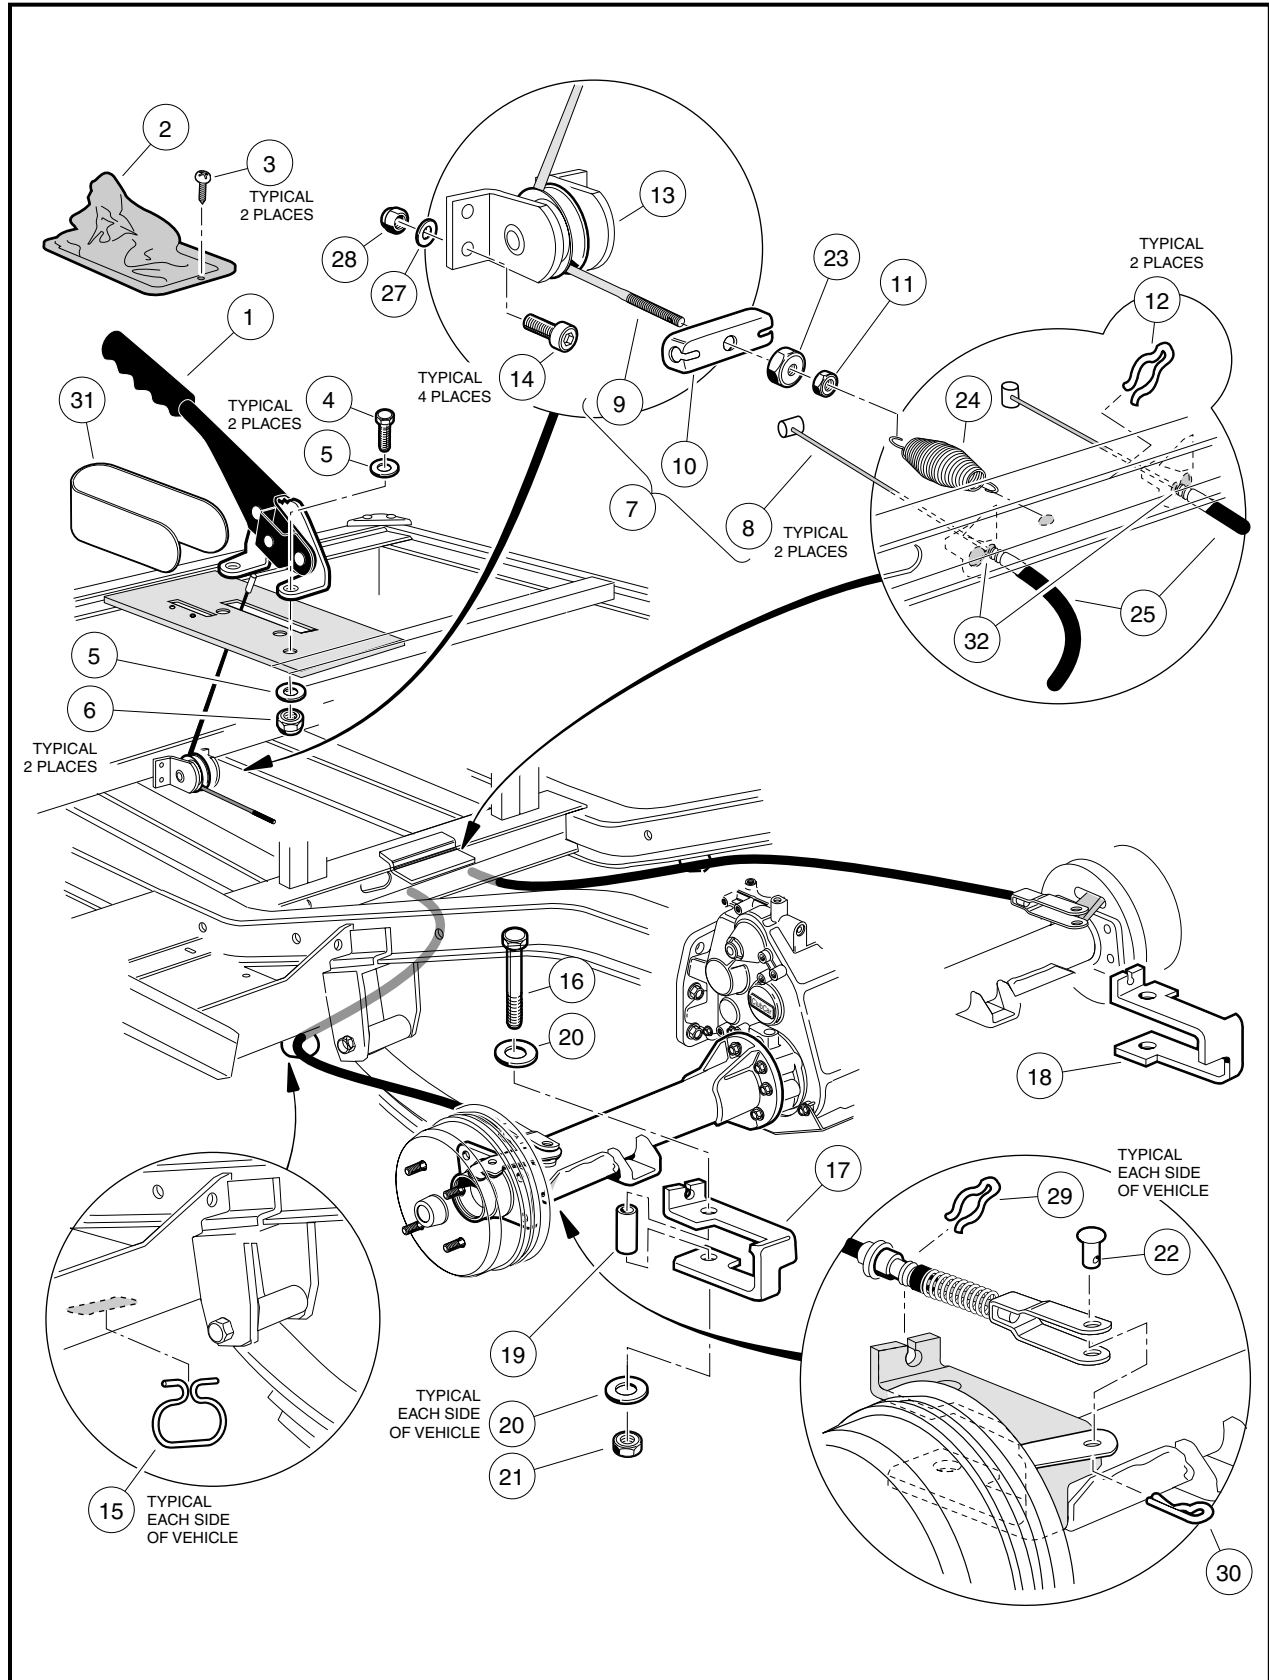

Figure 6b-28 Park Brake System
- Do not apply more than 65 in-lb (7.3 N·m) of torque to any of the adjuster bolts. Overtightening of the adjuster bolts could result in damage to the brake cluster components or the separation of the bolt (4) from the adjuster (3) (**Figure 6b-3, Page 6b-4** or **Figure 6b-21, Page 6b-25**).
4. With the park brake released (down), tighten the conical nut (23) until significant resistance is observed in the equalizer cable in order to fully lock the brakes (**Figure 6b-28, Page 6b-40**).
7. Using the double-wrench method, tighten the equalizer jam nut (11) against the conical nut (23) to 55 in-lb (6.3 N·m) (**Figure 6b-28, Page 6b-40**).